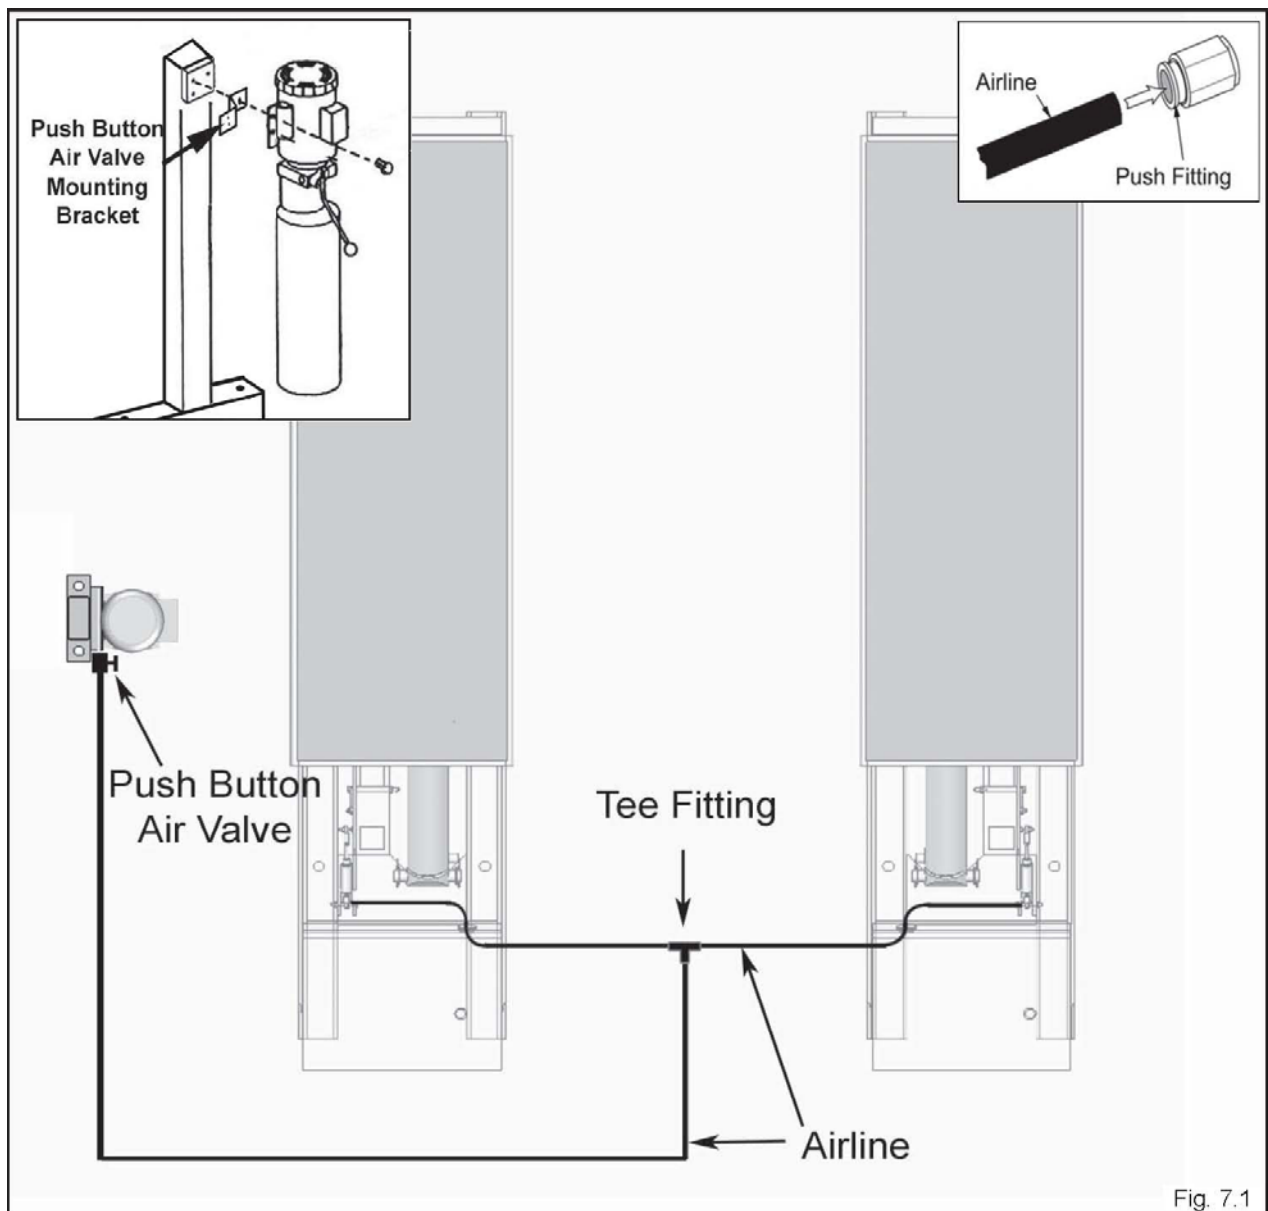

Fig. 7.1
**AIR PRESSURE SHOULD BE REGULATED TO 125 PSI MAX.** (See Fig. 7.1)